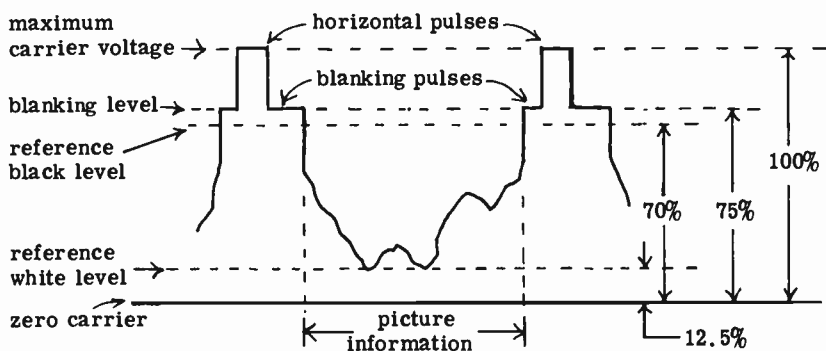

FIG. 20-6. A LINE OF PICTURE INFORMATION, TOGETHER WITH BLANKING AND HORIZONTAL PULSES.
The horizontal pulses rest on a wider pulse called the BLANKING PULSE (See Fig. 20-6). The purpose of the blanking pulse is to blank out the beam
In Fig. 20-6, the synchronizing and blanking pulses are at the top of the figure while the picture information is at the bottom. The top of the figure is negative with respect to the bottom. It would have to be in order to blank out the picture during retrace periods and let the beam through when picture information is being sent out.
(1) The video information. Fig. 20-6 shows a complete horizontal line of video information, together with the horizontal and blanking pulses. The whiter parts of the picture are at the bottom of the graph.
(2) Horizontal pulses. Their functions have been described. Note from Fig. 20-6 that they are rectangular in shape and occupy 25% of the total signal.